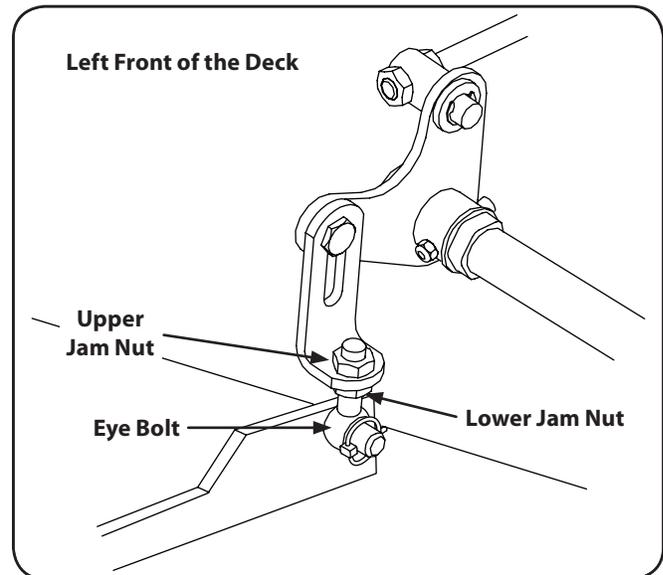

Figure 6-7
- Adjust the eyebolt at the left front of the deck so that the blade-to-ground height at the right front blade tip matches that of the left front blade tip. This is done by loosening the jam nuts on the eyebolt and tightening the upper nut to raise the deck and loosening the nut to lower the deck. The right front blade tip height is fixed so you must adjust the left front tip to match it. See Fig. 6-7.